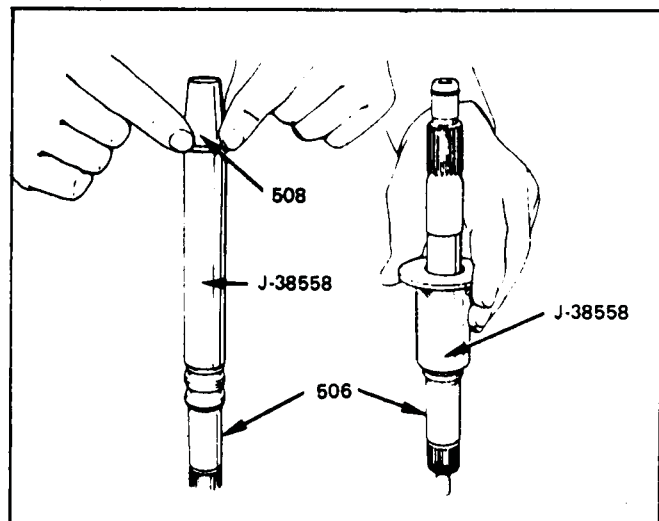

Figure 67
18. Install new sealing rings onto the turbine shaft using the installer and re-sizer tools, as shown in Figure 67.